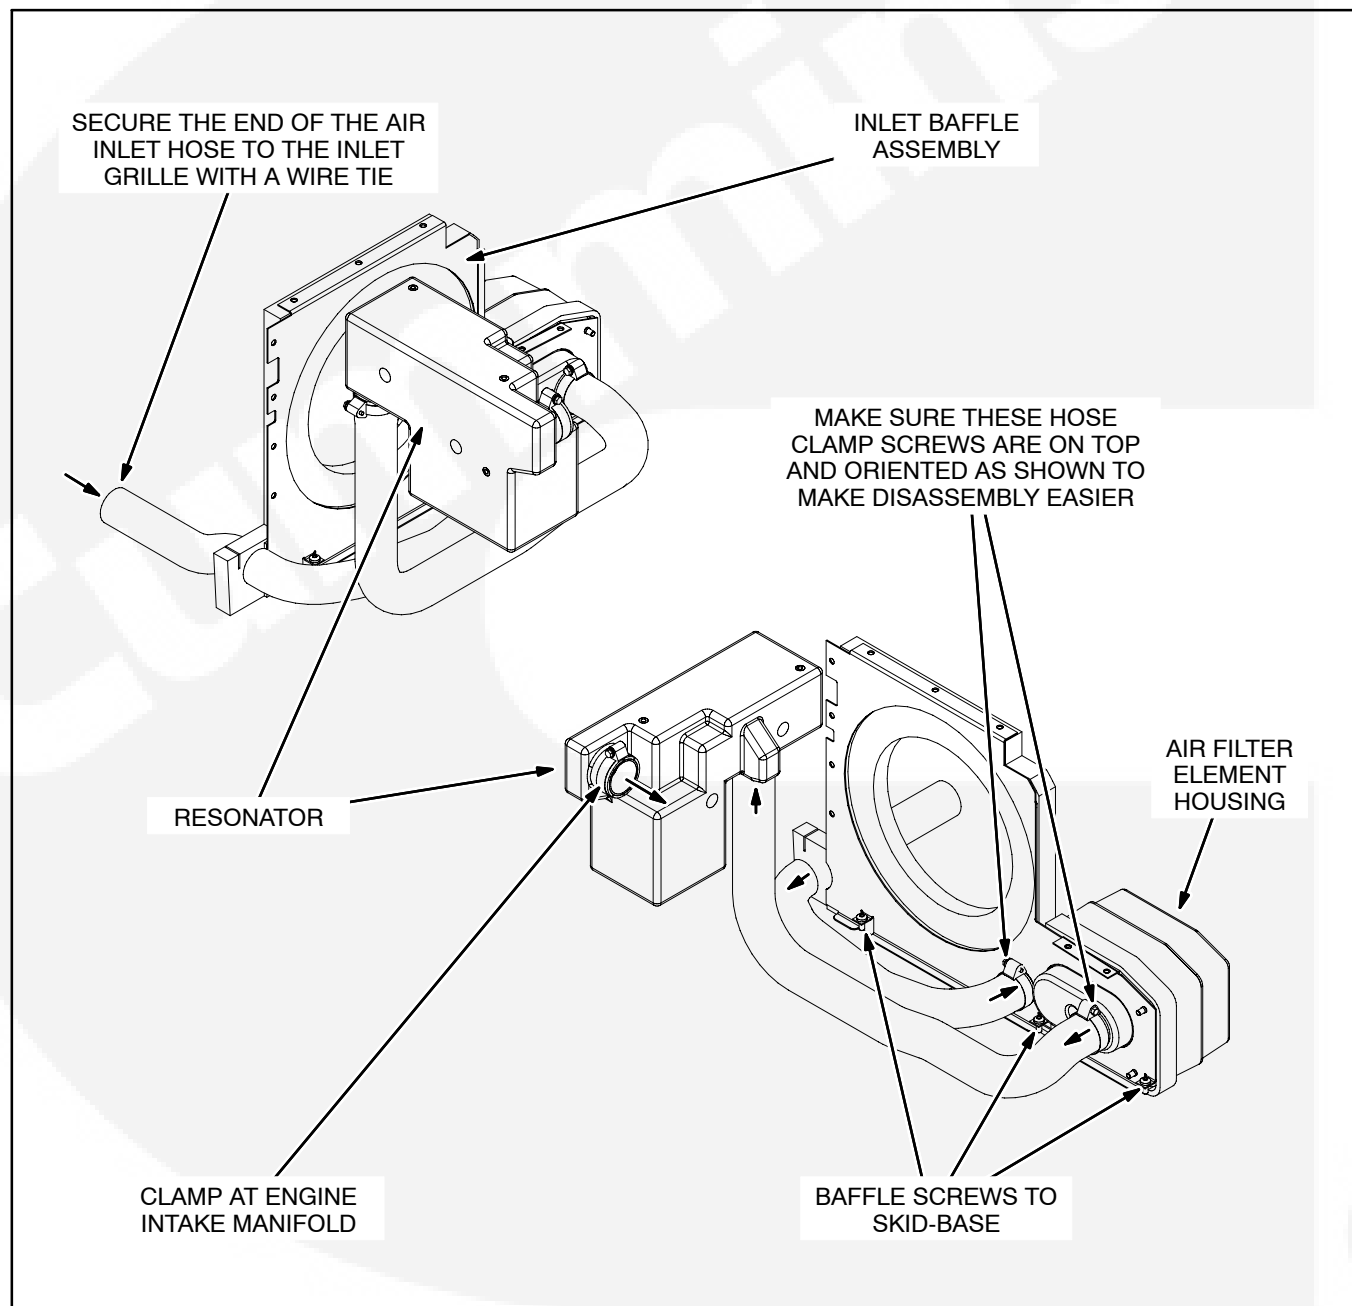

FIGURE 7-1. ENGINE AIR INTAKE ASSEMBLY
Figure 7-1 illustrates the series of parts connected to the engine air intake manifold. The arrows indicate the flow of air.
4. Remove the 6 screws securing the housing to the inlet baffle assembly (Figure 7-1).